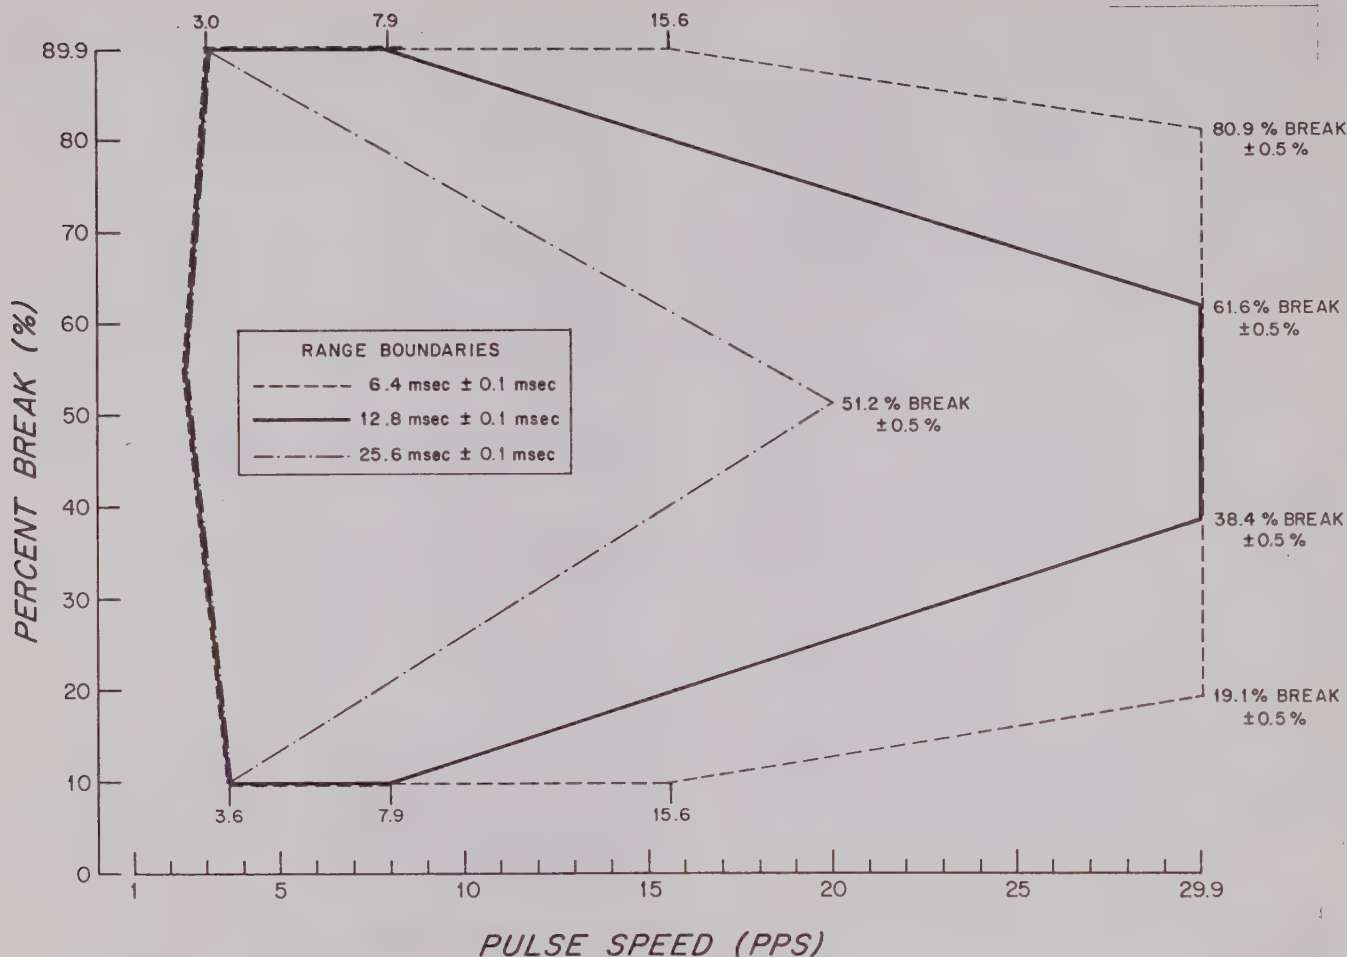

Figure 4-3. Receive Maximum And Minimum Percent Break Versus Pulse Speed
4.39 The 1260A can only measure certain combinations of pulsing speed and percent break. An input pulse timer internal switch plays a major role in determining the operating area available. This switch provides three separate time settings: 6.4 msec., 12.8 msec., and 25.6 msec. Figure 4-3 shows a graphical representation of the interrelationship of switch settings and the pulsing speed and percent break parameters. Any combination of pulse speed and percent break that falls outside of an enclosed area, as selected by the input pulse timer switch, will not generate a display of acceptable accuracy.
as 12 pps at 60 percent break and 700 msec. See paragraph 4.38 and Figure 4-3 for allowable combinations of pulse speed and percent break. See paragraph 4.20 for ID time considerations.
7. Set the PPS/% BREAK/ID X 10 MSEC thumbwheel switches as required. Refer to paragraph 4.38 and Figure 4-3 for pulse speed and percent break considerations. Refer to paragraph 4.20 for ID time considerations.
7. To send on the E lead toward the drop, turn the SEND dial to either EI-II-III B&G or E (SF) G&B.
9. Set the PPS/% BREAK/ID X 10 MSEC thumb-wheel switches as required. Refer to paragraph 4.38 and Figure 4-3 for pulse speed and percent break conditions. Refer to paragraph 4.20 for ID time considerations.
There are certain combinations of pulsing speed and percent break that the 1260A cannot measure. Refer to paragraph 4.15 and Figure 4-3 for the information. Refer to paragraph 4.20 for detailed information on measurable ID times and considerations.